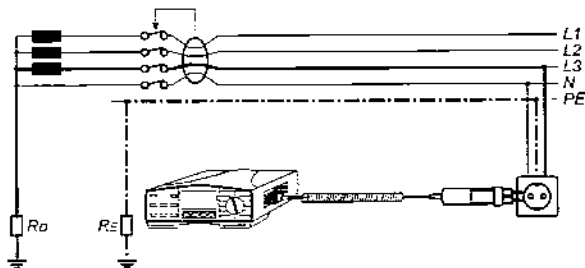

Fig. 31. Connection of Plug commander
- Connect test cable to object to be tested (mains outlet or other test terminals), in accordance with figure 31. or 32.